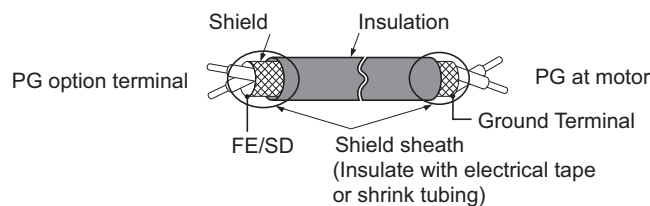

Figure 8.6 Preparing Ends of Shielded Cable
2. There are two screw holes on the drive for use as ground terminals (I). When connecting three options, two ground wires will need to share the same drive ground terminal.
4. Prepare and connect the wire ends as shown in Figure 8.6 and Figure 8.7. *Refer to Wire Gauges, Tightening Torque, and Crimp Terminals on page 331* to confirm that the proper tightening torque is applied to each terminal. Take particular precaution to ensure that each wire is properly connected and wire insulation is not accidentally pinched into electrical terminals.